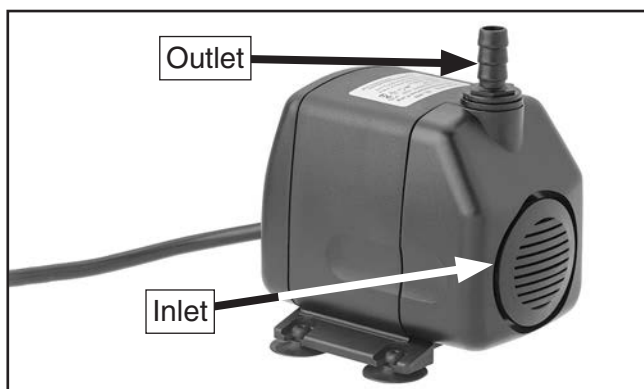

Figure 12. Example of cooling pump.
4. Connect either coolant tube from back of machine to cooling pump outlet (see **Figure 12**).